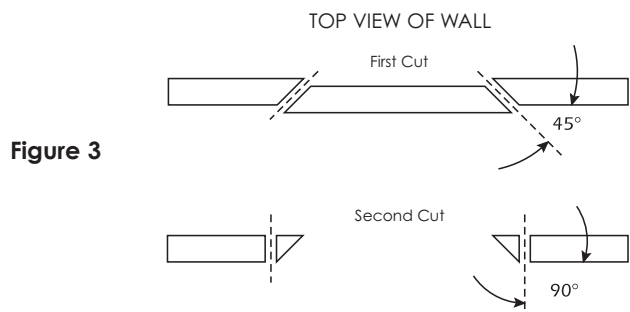

Figure 3
4. Cutting the hole. **CAUTION:** This is the most important part of the entire installation. If you are not certain whether any obstructions exist behind the desired mounting area, you should start by cutting a small hole in the center of your penciled mounting hole with a drywall saw. Cut at a 45° angle towards the inside of the hole (**Figure 3**). Cutting the small hole at this angle will make drywall repair much easier as the piece cut out can be installed neatly back into the hole. Once you have determined there aren't any obstructions in your desired mounting location, start cutting the finished hole at a 90° angle to the wall surface.